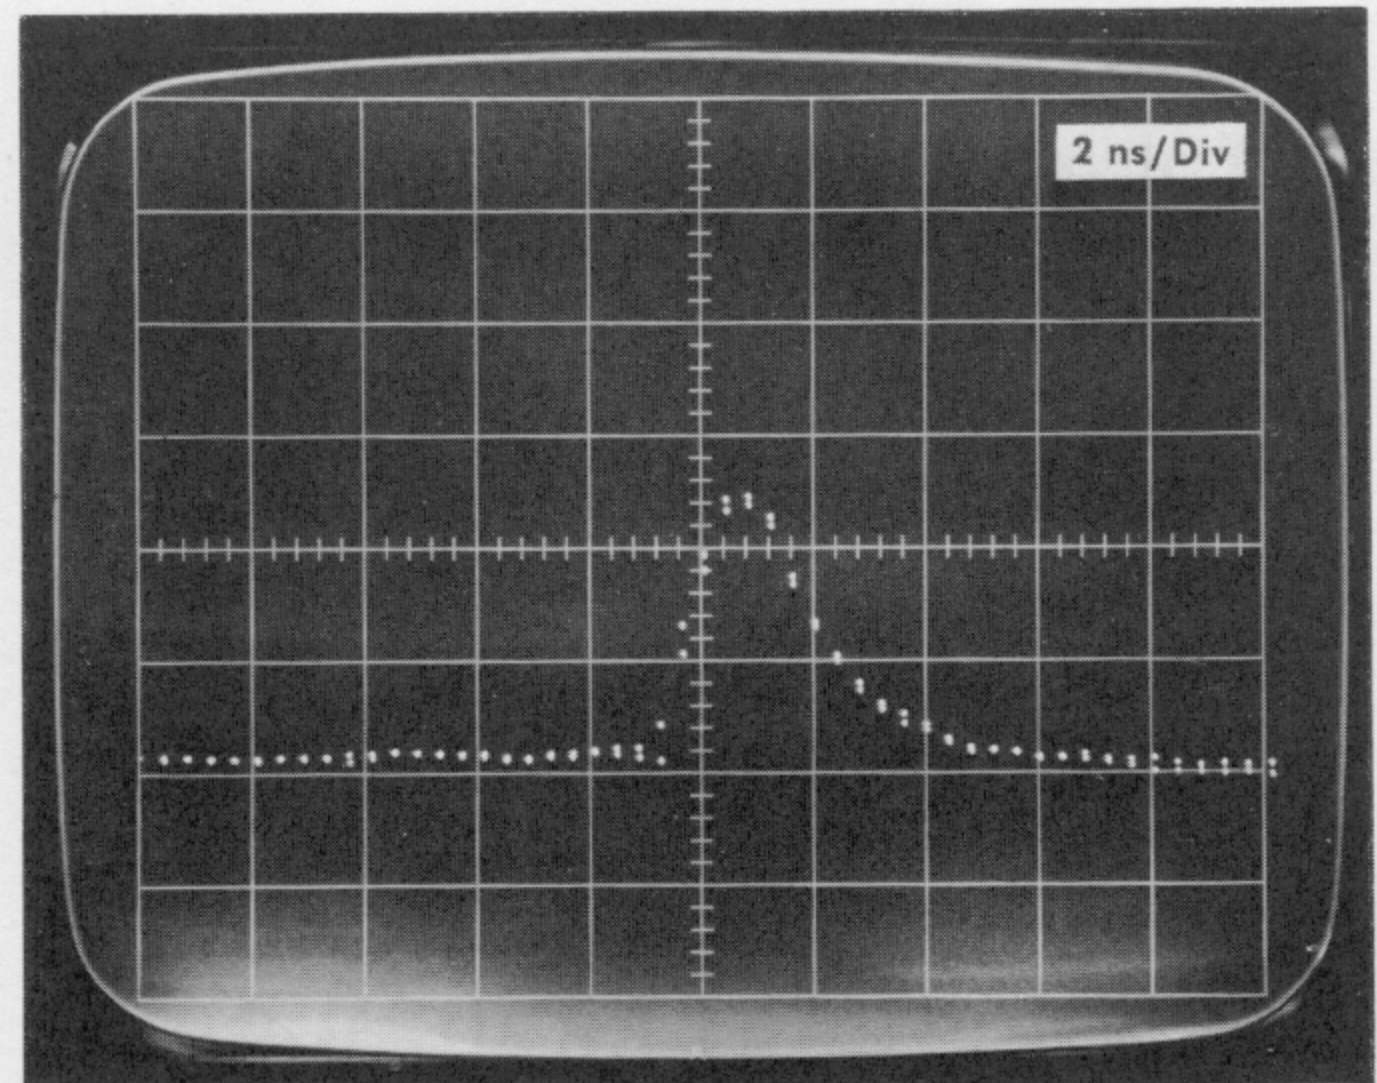

Fig. 2-12. Degraded display of signal shown in Fig. 2-11B caused by use of smoothing with sampling sweep unit set for low dot density normal process sampling.
**Dot Density.** Normally the SMOOTH position of the NORMAL-SMOOTH switch will not significantly affect the risetime of the display if the dot density is sufficient. If, however, the display wave shape is affected when the switch is changed from the NORMAL position to the SMOOTH position, a compromise must be made between smoothing and dot density. Fig. 2-12 illustrates the effect produced by using smoothing when the dot density is low. This effect can be compared to the high dot density of the same input signal as shown in Fig. 2-11B.